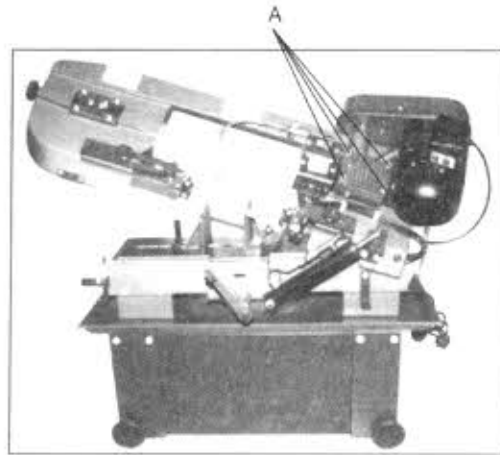

Fig.17
3. Remove screws (A, Fig. 17) from the gearbox and remove cover plate and gasket.